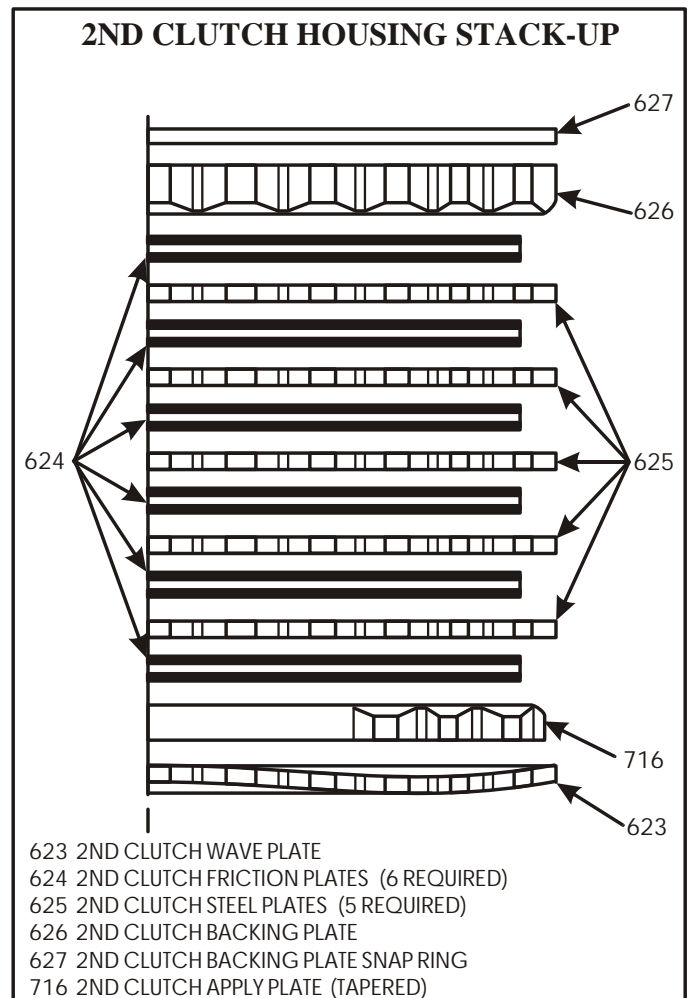

Figure 123
10. Install the 2nd clutch wave plate (623) into the 2nd clutch housing. Use Figure 123 as your reference for the proper stack-up.
11. Install the 2nd clutch apply plate into the drum with the marking "DN" or "DOWN" toward the piston (See Figure 123).
12. Install the 2nd clutch plates beginning with a friction plate and alternating with steel plates until you have installed 6 friction plates and 5 steel plates. Refer to Figure 123.
14. Install the 2nd clutch backing plate snap ring into the housing (See Figure 123).